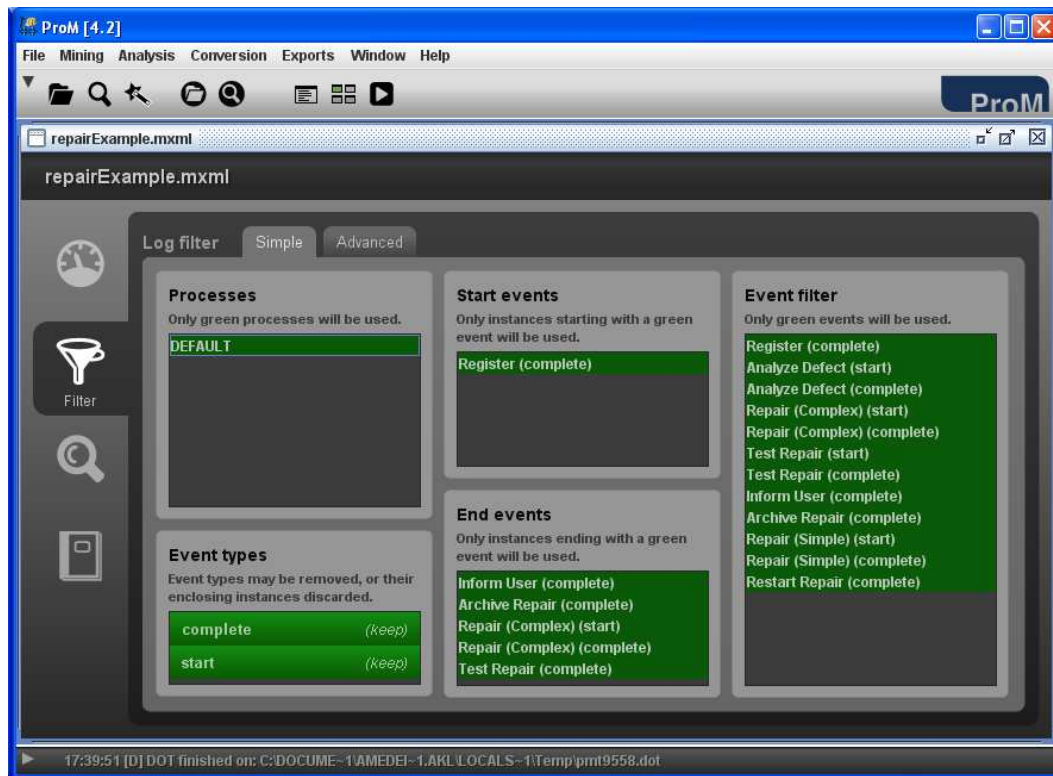

Figure 2.2: Screenshot of the ProM after the log of the running example (cf. Section 1.3) has been opened.
3. Open the log via clicking *Open*→*Open MXML Log file*, and select your saved copy of the log file for the running example. Once your log is opened, you should get a screen like the one in Figure 2.2. Note that now more menu options are available.
Take your time to inspect this log with these two analysis plug-ins and find out more information about it. If you like, you can also inspect the *individual* cases by first clicking the tab *Inspector* (cf. third left tab on Figure 2.2), then clicking on the top tab *Preview*, and finally double-clicking on a specific process instance.
In ProM, a log can be filtered by applying the provided *Log Filters*. In Figure 2.2 you can see five log filters: *Processes*, *Event types*, *Start events*, *End events* and *Events*. The *Processes* log filter is used to select which processes should be taken into when running a process mining algorithm. Note that a log may contain one or more processes types. The *Event types* log filter allows us to select the type of events (or tasks or audit trail entries) that we want to consider while mining the log. For our running example, the log has tasks with two event types: *complete* and *start*. If you want to (i) keep all tasks of a certain event, you should select the option “keep” (as it is in Figure 2.2), (ii) omit the tasks with a certain event type from a trace, select the option “remove”, and (iii) discard all traces with a certain event type, select the option “discard instance”. This last option may be useful when you have aborted cases etc. Options can be selected by clicking on an
1. Include the event types selection as in Figure 2.2. I.e., “keep” all the *complete* and *start* event types;